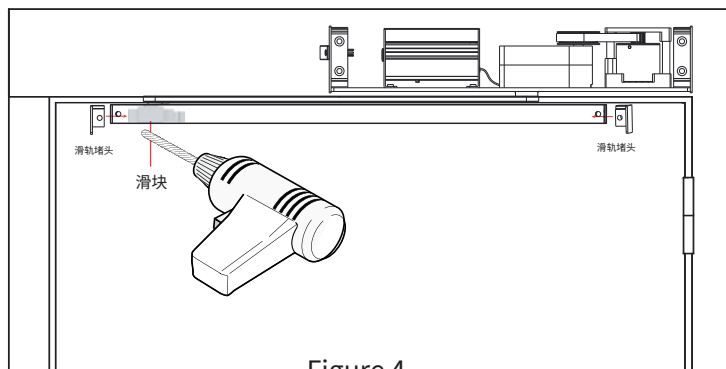
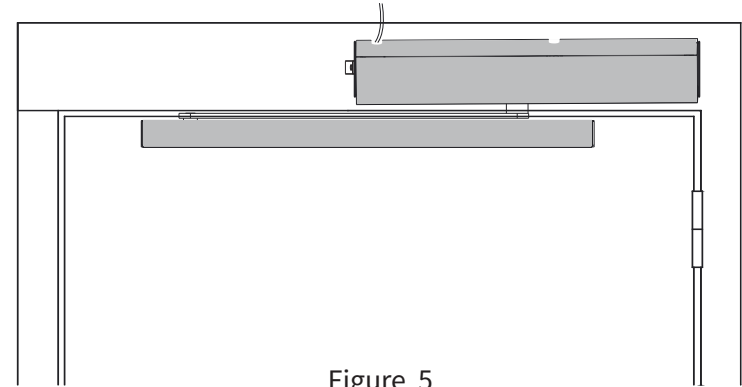

Figure 4
Figure 5
Step 4: close the door, install the slide rail plug, and place the slider at the end of slide rail, as shown in Figure 4, then mark the screw hole position, drill the fixing holes and fix the rail.
Step 5: connect the power, place the cover, as shown in Figure 5.
- Step 4: when the door is closed, ensure that the arm is perpendicular to the door, as shown in Figure 4, and fix the other end of the arm. (Note: installation precautions are shown in Figure 5)